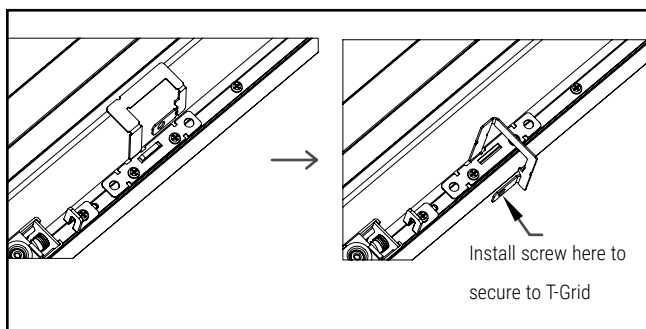

Figure 10.
6. Bend 4 earthquake clips as shown in figure 10. If desired or required by local code, drive a self-drilling screw (not provided) to connect the clips to the T-grid. See Fig.10